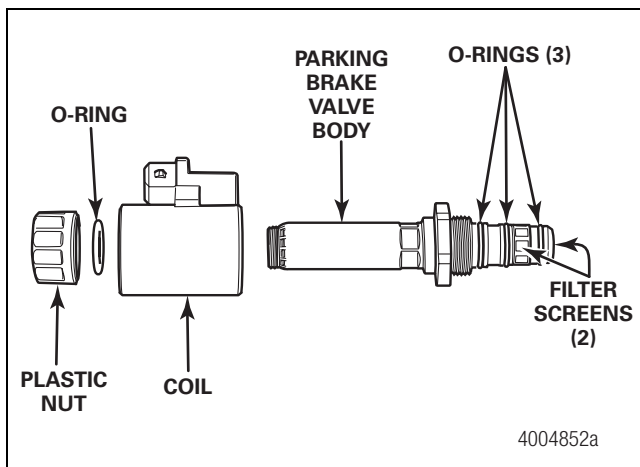

Figure 4.56
1. Remove the coil from the new pressure supply valve. Figure 4.56.